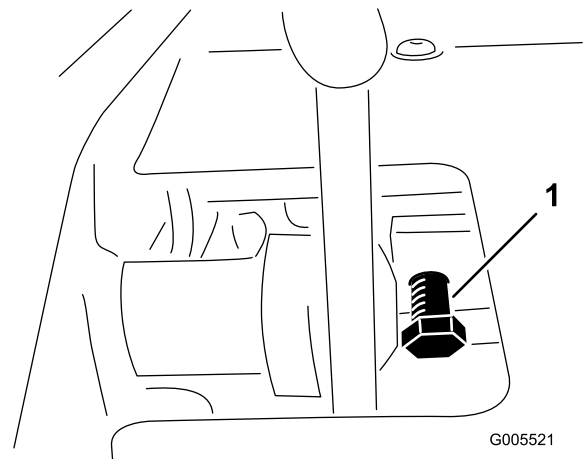

Figure 54
1. Loosen the jam nut on the pedal lock bolt (Figure 54).